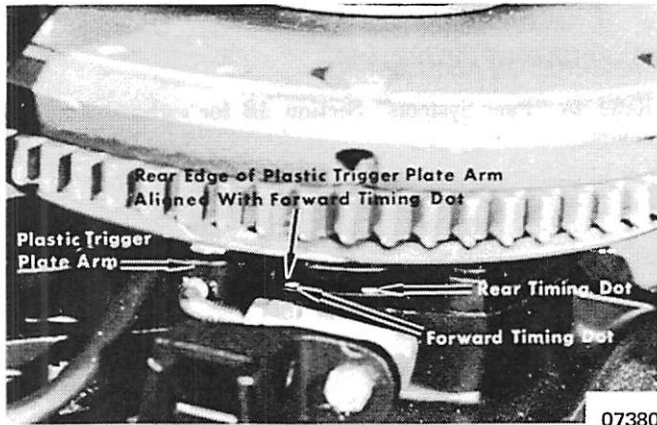

Figure 1. Position of Trigger Plate
1. Align rear edge of plastic trigger plate arm with forward timing dot. Timing dot is located on upper end cap under flywheel. (Figure 1)